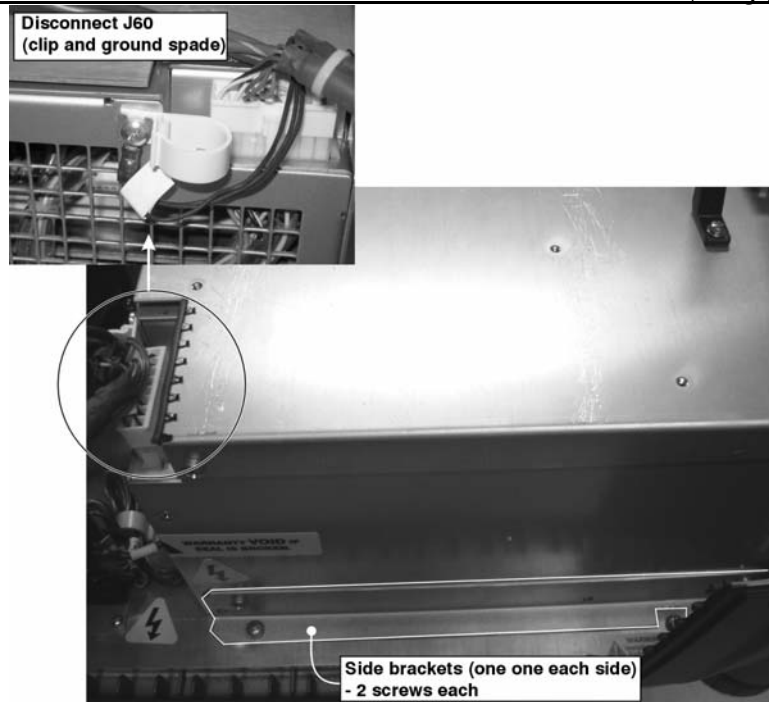

Figure 50. Disconnect Ballast Cable Connection
- b) Remove two (2) screws securing the light shield to the bottom base plate.
9. Remove the four (4) screws securing the two (2) high voltage lead holders.
10. Remove the four (4) screws securing the lamp ballast to the base.
11. Remove the two (2) screws securing the ballast cover to the base.
13. Remove the ballast's two (2) mounting brackets for use on the new ballast (two screws each). (Figure 50.)
14. Remove the four (4) screws securing the ballast top cover.
15. Disconnect the ballast cable connection (J60). Route cable through the grommet in the ballast cover to free. (Figure 50.)